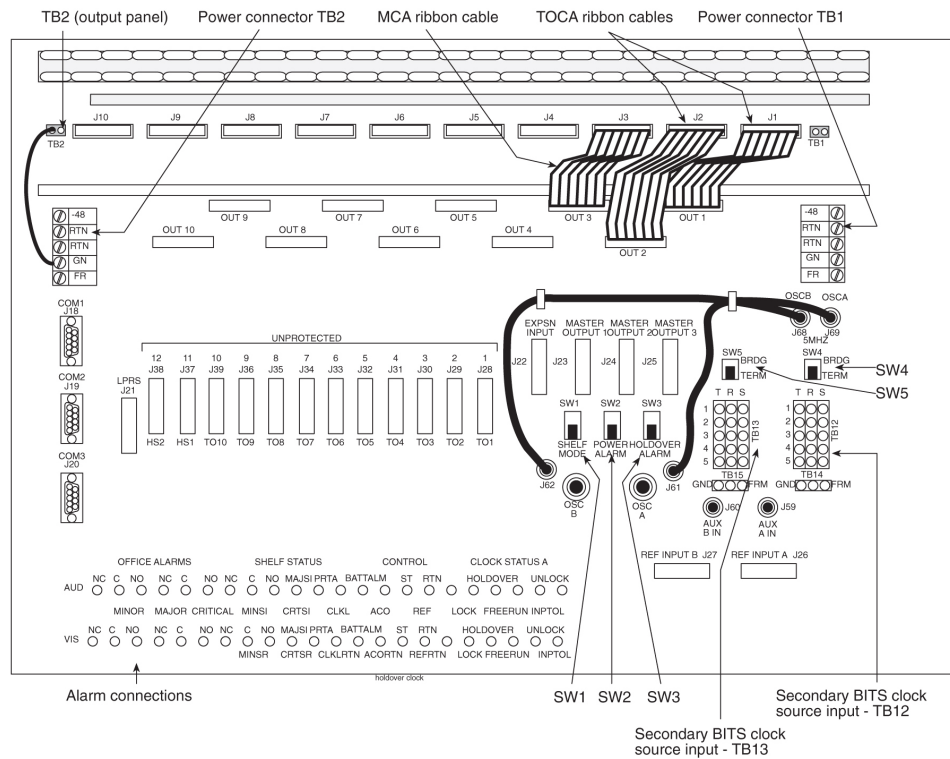

Figure 114: Holdover Clock and Output Panel, Rear
Timing Output Composite Clock Automatic (TOCA) ribbon cable; check to insure that the ribbon cables connecting the holdover clock with the output panel are connected as shown in Figure 114:
Check that the output panel frame ground cable is installed between TB2 on the output panel and an output panel mounting screw, see *Figure 114: Holdover Clock and Output Panel, Rear*.
See *Figure 113: Holdover Clock Power Connector* and *Figure 114: Holdover Clock and Output Panel, Rear* for holdover clock connector locations.
4. Route the cable up the left side of the control frame, viewed from the rear, over to the miscellaneous frame containing the holdover clock, and down the left side of the miscellaneous frame to the cable tie bar next to the alarm connections, see Figure 114: Holdover Clock and Output Panel, Rear.